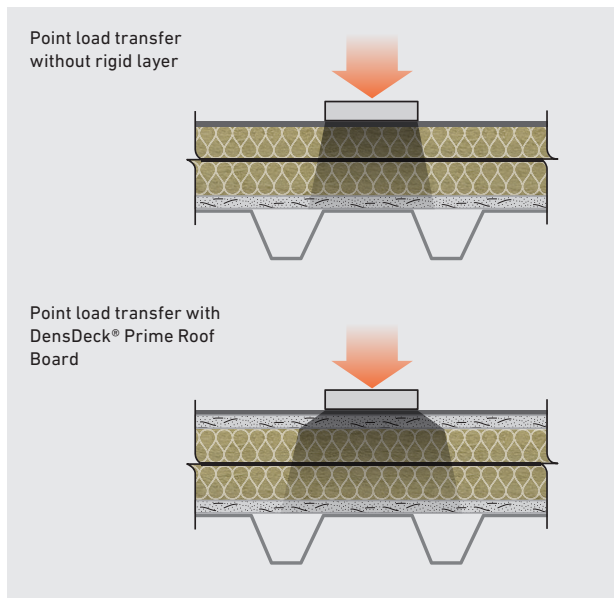

Figure 1: Indicative load distribution - DensDeck® Prime Roof Board helps to spread point loads.
- The DensDeck® Prime Roof Board acts as a load spreading medium due to its rigid nature (Figure 1).